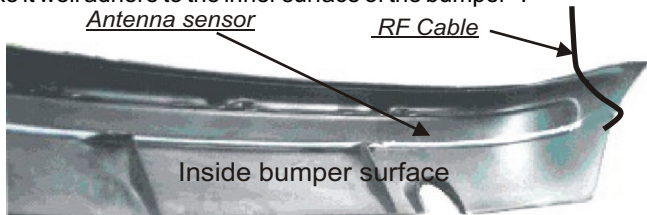

Fig. 2
B) Through the individuated passages route the RF cable from the dashboard leaving the fast on outside. (Fig. 2)